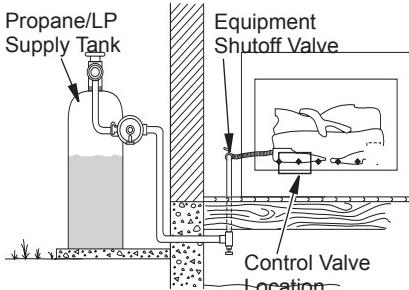

Figure 9 - Checking Gas Joints
- Check all joints from gas meter to equipment shutoff valve for natural gas or propane/LP supply to equipment shutoff valve for propane/LP (see Figure 9 or 10). Apply noncorrosive leak detection fluid to all joints. Bubbles forming show a leak.
- Check all joints from equipment shutoff valve to gas control (see Figure 9 or 10). Apply noncorrosive leak detection fluid to all joints. Bubbles forming show a leak.